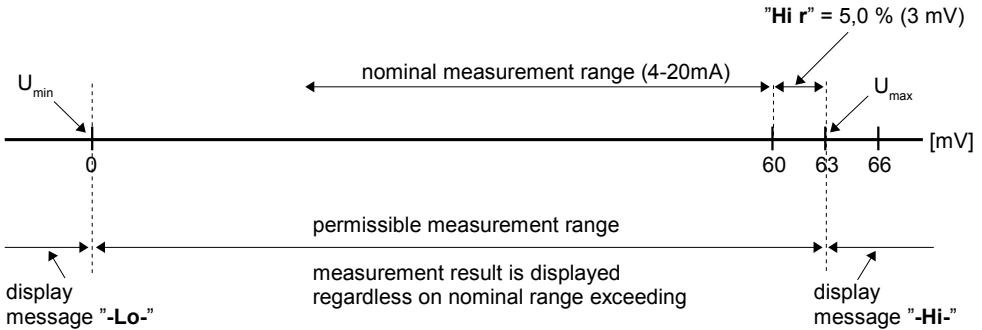

Figure 7.1 Example of definition of permissible range of input signal - **"Hi r"** parameter ("**60**" mode)
- this parameter define the expansion of nominal range in percent. It determine the permissible range of input signal (Figure 7.1).